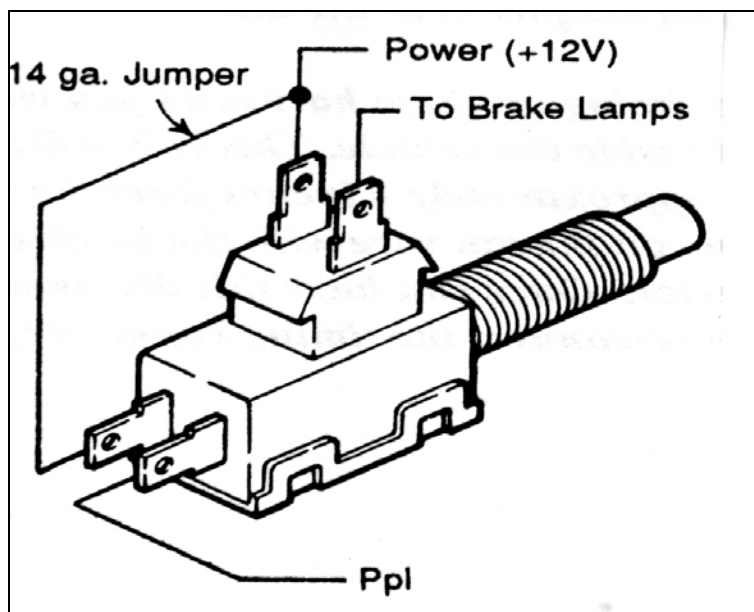

Figure 6.4 Brake switch
- 6.1.4 Locate the Orn/Blk and Blk/Wht wires in the dash group. These two wires are for the Park/Neutral Selector Switch, NOT the Neutral Safety Switch. If you have a GM column then you can use the combination switch P/N 15679680 and wire it as shown in **FIGURE 6.4.**
6.1.10. If you are using the recommended brake switch then you will wire it according to **Figure 6.4**. The wire jumped to the back of the switch in the illustration is the wire that has power on it whether or not the brake is being applied. If you have installed your own switch then it must connect the single purple wire to power ONLY when the brakes are NOT being applied. If you are using a hydraulic brake switch see page 33 for proper wiring using a relay.
- 7.4.2** Purple wire tagged BRAKE SWITCH attaches to the brake switch shown in **FIGURE 6.4**